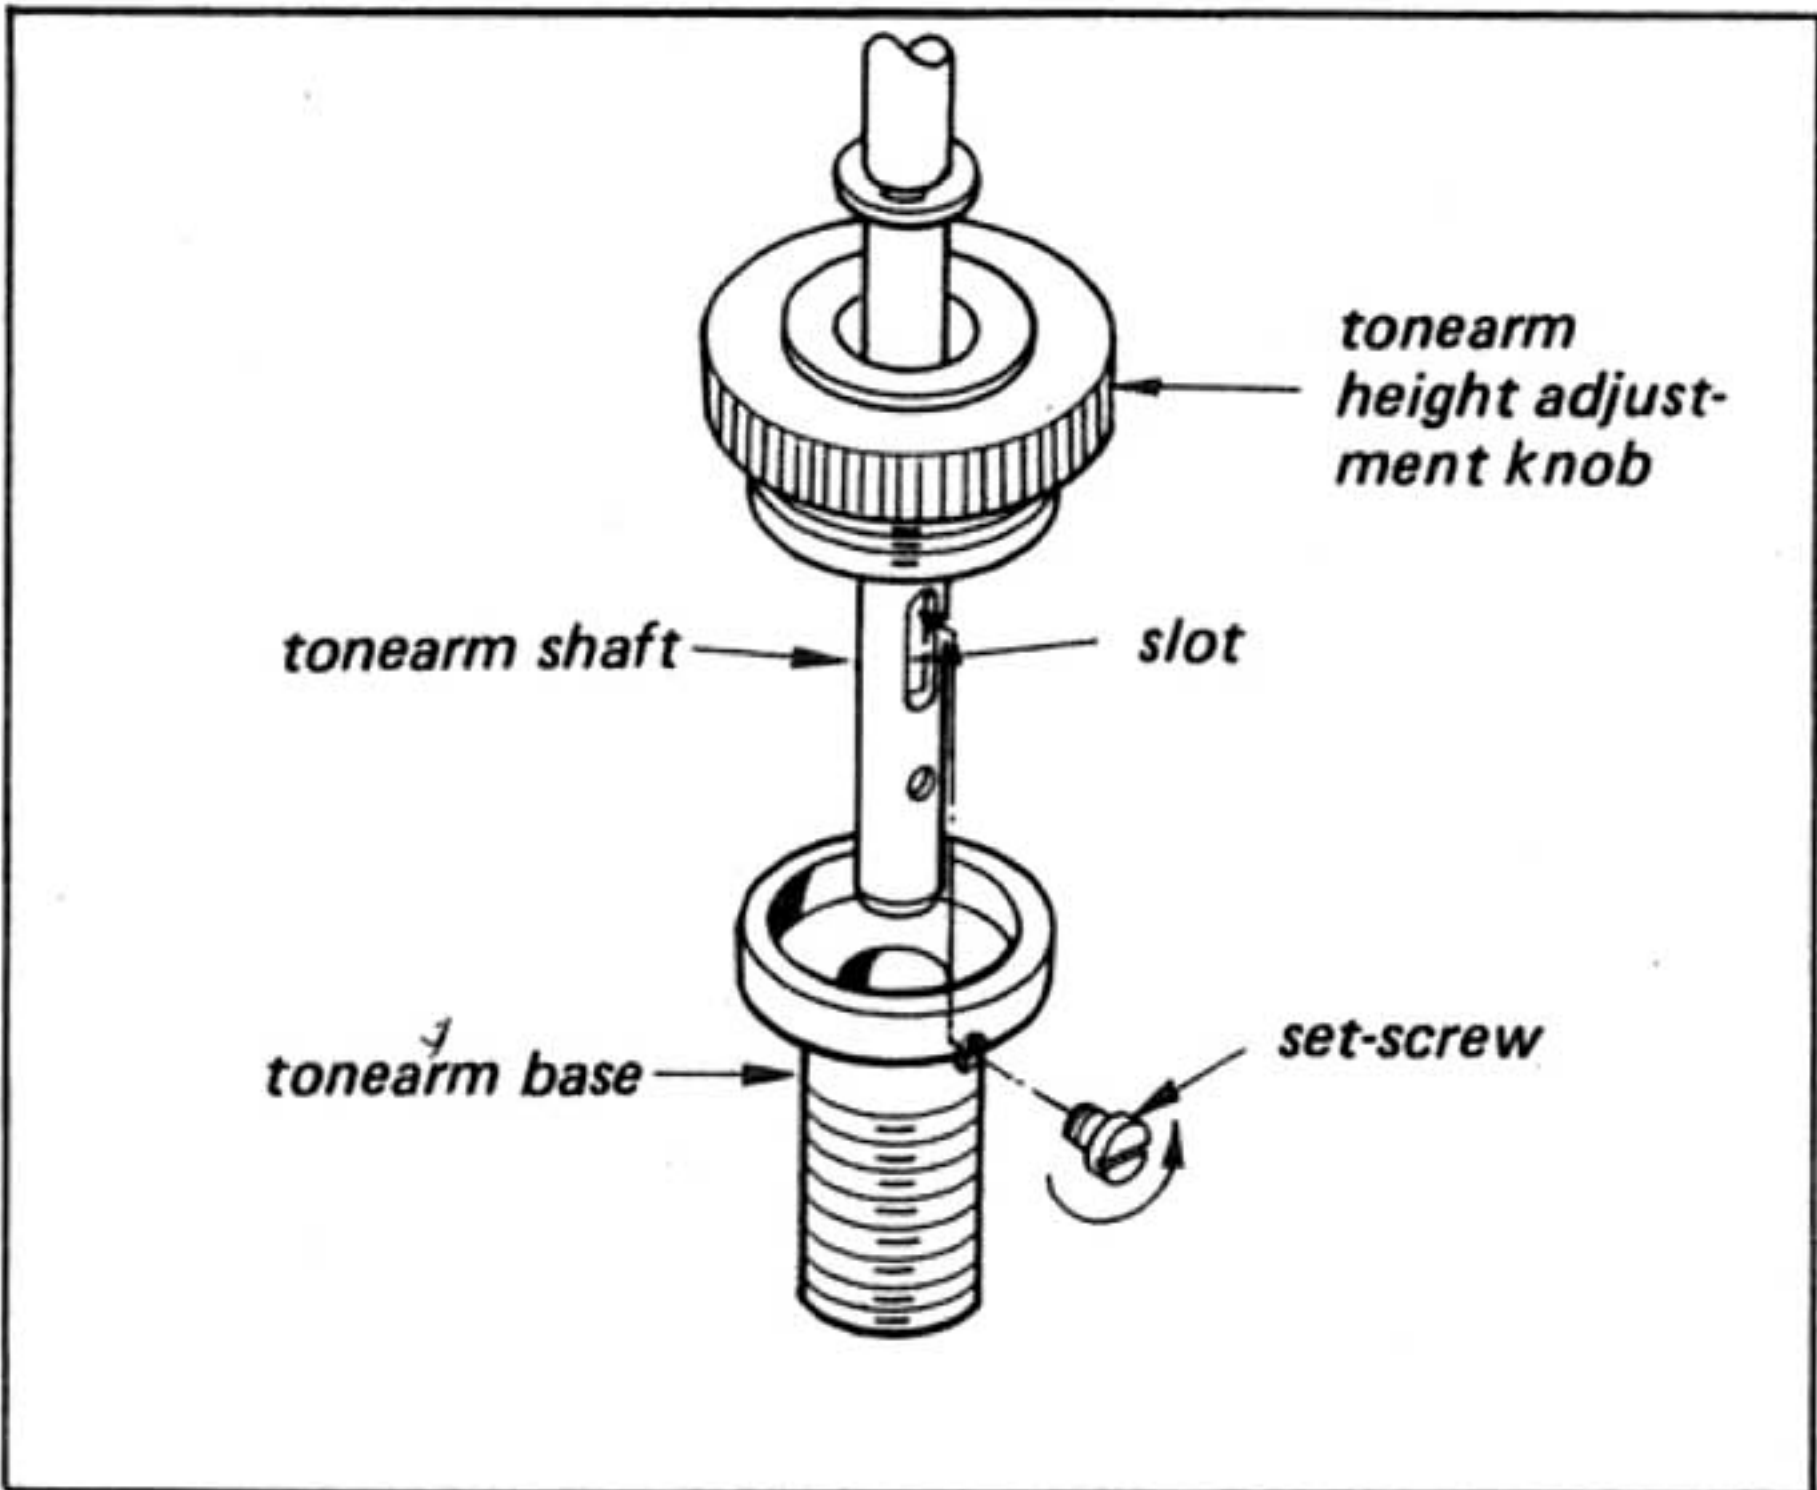

Fig. 2-14. Tonearm base removal
- 2. Remove the set screw by turning it counterclockwise as shown in Fig. 2-14.
- 4. When reassembling the base, care should be taken that the set screw meets with the slot on the tonearm shaft as shown in Fig. 2-14.